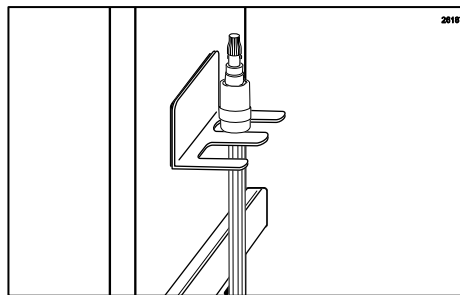

Figure 147
- The 9-Tube Assembly slides into the smaller slot on the Bracket so that the coupler casing is above the bracket and the syringe tubes hang below. (See Figure 147.)